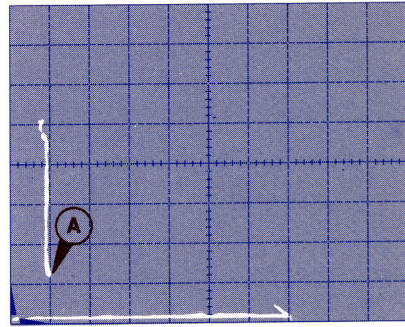

Figure 7-1. Display of SCR holding current I_H . Point (A) is the measured holding current.
- 2) Position spot — Using VERT and HORIZ POSITION controls, move spot to lower left corner of graticule. (27) (26)
- 3) Use STORAGE mode — Press and leave in UPPER and LOWER STORE and UPPER and LOWER ERASE buttons. Then, press ERASE button. (3) (2)
- 4) Apply power to device — Position LEFT-RIGHT switch on 177 to appropriate side. *Slowly* increase VARIABLE COLLECTOR % supply until specified voltage is attained. [7 divs horizontally]. (34) (8)
- 5) Apply gate voltage — Slowly increase OFFSET MULTIPLIER setting until anode current flows. See Figure 7-1. Press OFFSET ZERO in. Slowly decrease VARIABLE COLLECTOR % control until vertical trace switches down to bottom graticule line. Measured holding current is last point before upper section of trace disappears. See Figure 7-1. (24) (25)